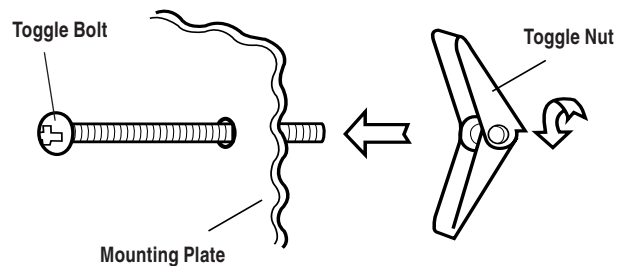

Figure 15
2. **IMPORTANT** Use the mounting template provided to Use wood screws to attach mounting plate to the stud or studs. Use Toggle Bolts to attach mounting plate through the holes at A, B, C and D **UNLESS THOSE HOLES ARE LOCATED ON THE STUD**. Insert one Toggle Bolt into A, B, C and D where appropriate (these correspond to holes of the Wall Template) and put the Toggle Nuts onto the Toggle Bolts. See Figure 15. Refer to instructions in Wall Template.